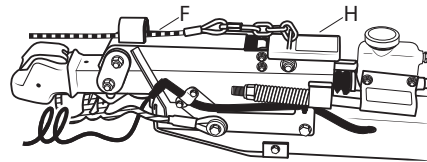

Figure 11
**⚠ NEVER** tow the trailer unless the emergency brake pedal (H) is in the fully down position. (Figure 11) See decals also, for proper position of emergency brake pedal for towing. The emergency brake cable (F) attaches to the emergency brake pedal (H) on top of the hydraulic brake mechanism. (Figure 11) When the emergency brake cable is pulled forcefully, the emergency brake pedal will move upwards and lock, activating the trailer brakes. The trailer brakes will remain activated until the emergency brake pedal is reset to the fully down position. Call U-Haul at **1-800-528-0355** if you need the emergency brake reset to down position.